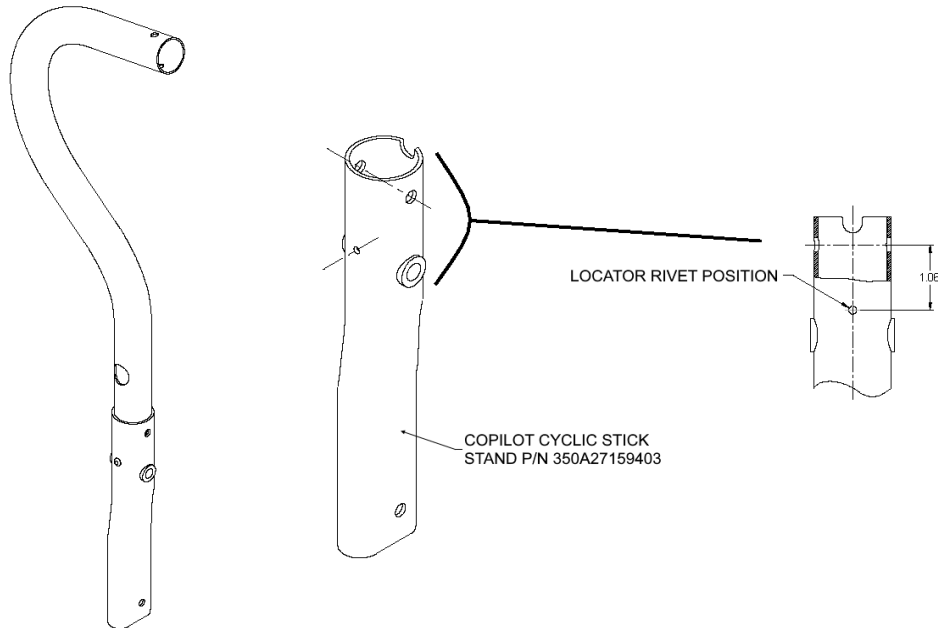

Figure 2: SB GA107-7 LH Cyclic Stick locator rivet
2. Inspect co-pilot cyclic stick stand (ref. p/n 350A27159403) for locator rivet, installed per Service Bulletin GA107-7 Rev --, or later approved revision, shown in Figure 2. If the rivet is not present, install the rivet per PART III of this SIL.